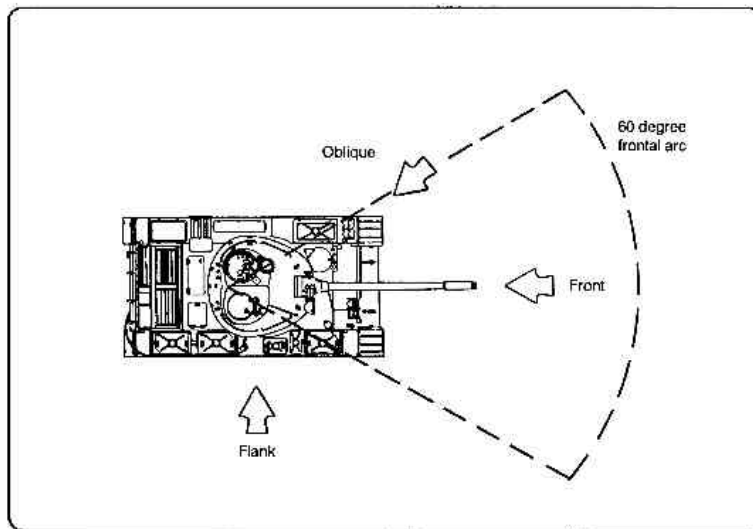

Figure 3-20. Flank and oblique target shots.
- c. Frontal fire is usually avoided. An antitank weapon firing frontally is an exception. A tank's firepower and observation are oriented to the front. This makes it difficult to detect and retrace an ATGM launched from its flank. Firing at frontal targets lowers the odds for a mobility kill, which can be acquired by hitting the vehicle's wheels, track, or suspension system. The highest-percentage of mobility kills result from flank and oblique target shots. (See Figure 3-20.)